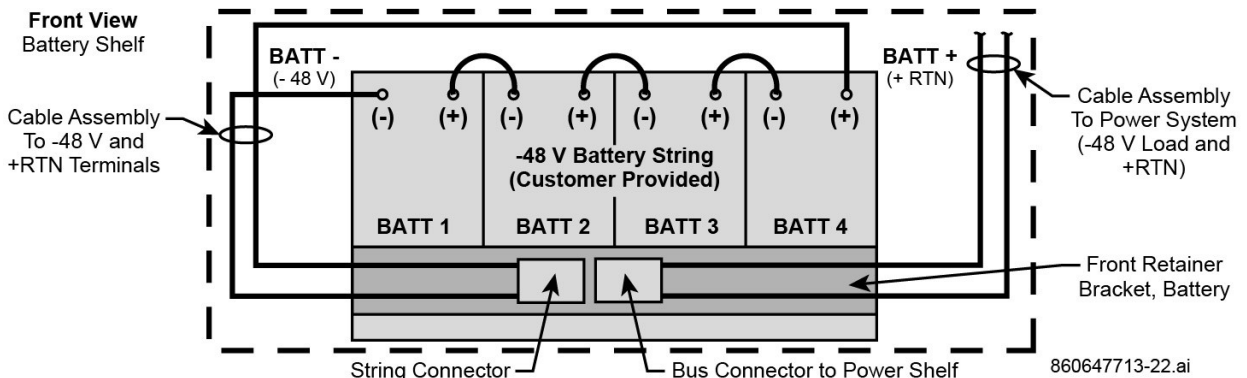

Figure 31. Battery String Cable Connection, Example Using Anderson Connectors
8. Locate battery cable marked **BATT+**. Remove protective lug cover and connect it to positive (+RTN) terminal of right-most battery per Figure 31 or Figure 32.
9. Locate battery cable marked **BATT-**. Remove protective lug cover and connect it to negative (-48V) terminal of left-most battery per Figure 31 or Figure 32.